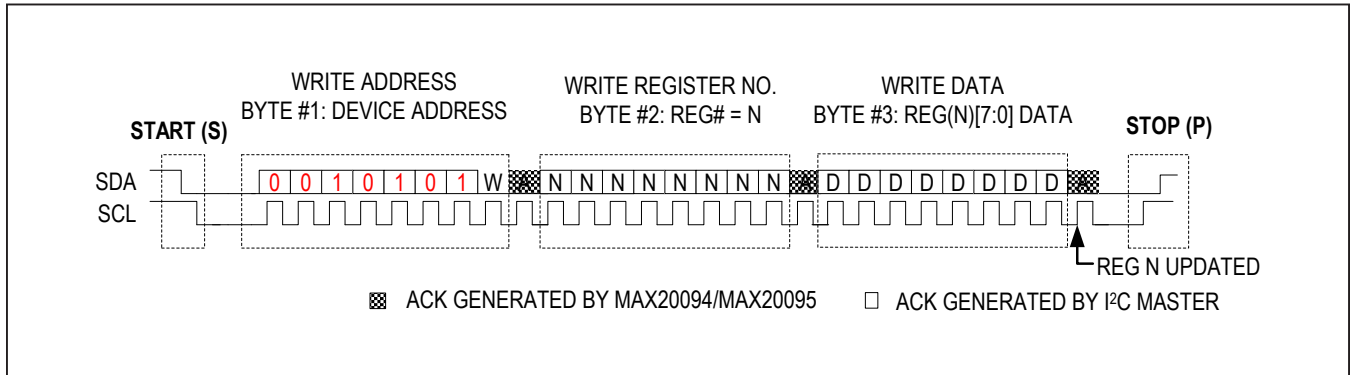

Figure 6. I2C Write Sequence
A master device communicates with the device by transmitting the proper slave address, followed by a register/command and data word(s). Each transmit sequence is framed by a START (S) or Repeated START (Sr) condition and a STOP (P) condition. Each byte is 8 bits long and is always followed by an acknowledge (ACK) clock pulse, as shown in Figure 6. The first byte contains the